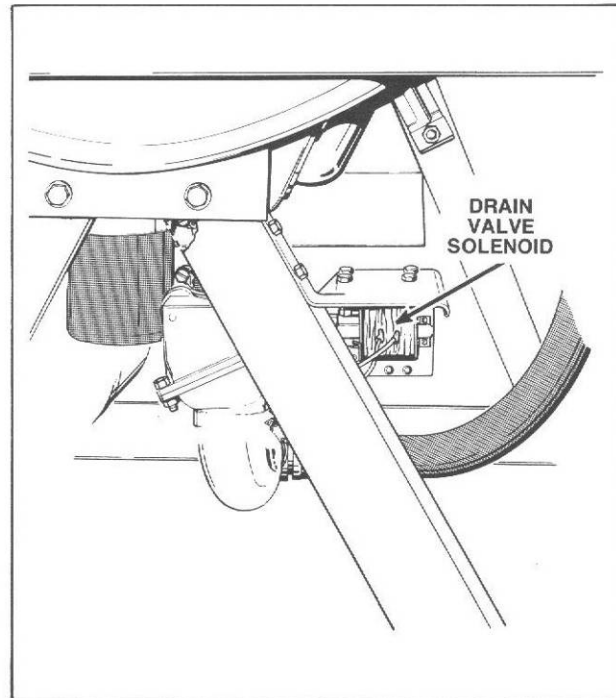

Figure 50
**48. DRAIN VALVE SOLENOID (Refer to Figure 50)**